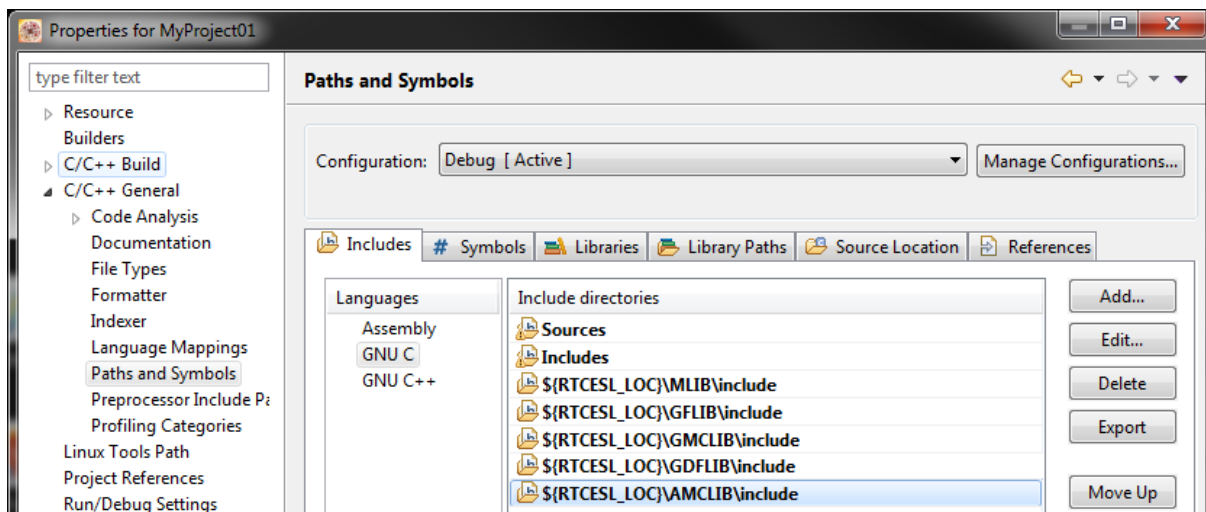

Figure 1-16. Compiler setting
27. In the right-hand dialog, select the Includes tab, and click GNU C in the Languages list. See Figure 1-16.
38. Click OK, and you will see the paths added in the list. See Figure 1-16. Click OK.